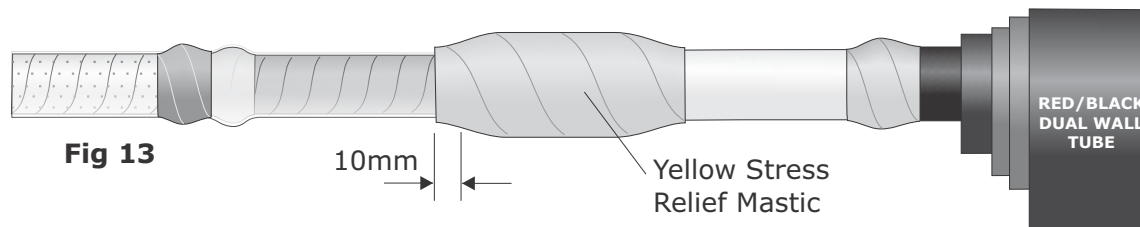

Fig 13
20. Apply the yellow stress relief mastic over the connector area under tension and with a 50% overlap. Extend onto the primary insulation by 10mm each side, as shown in Fig 13.